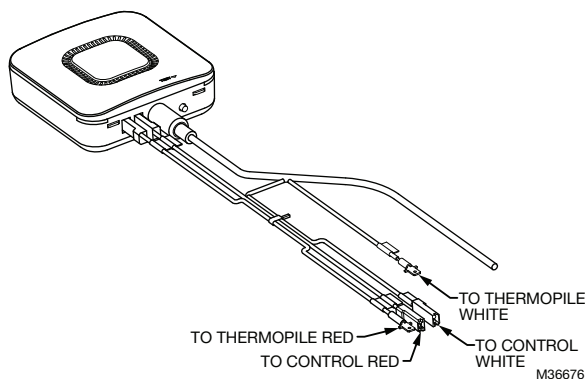

Fig. 3. Leak detector wires.
2. Connect the leak detector wires as shown in Fig. 3.